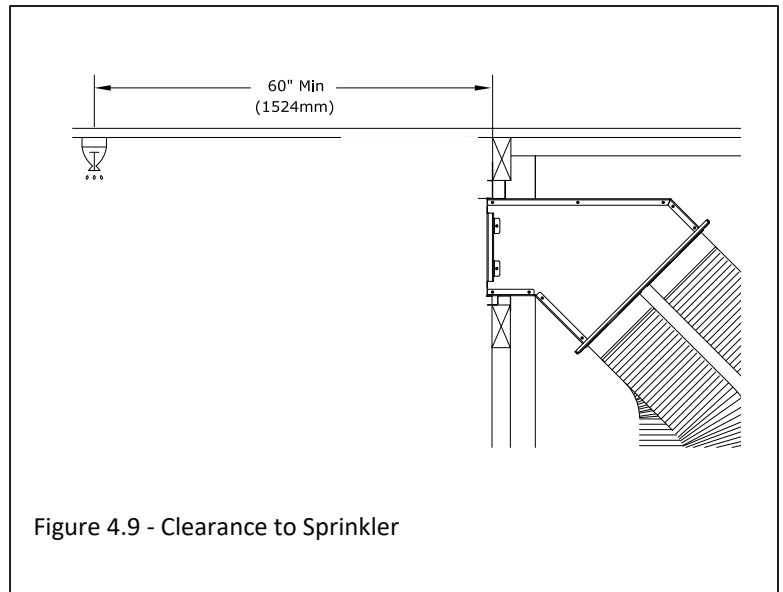

Figure 4.9 - Clearance to Sprinkler
- Figure 4.9 shows a side KZK whereas your installation may look different.